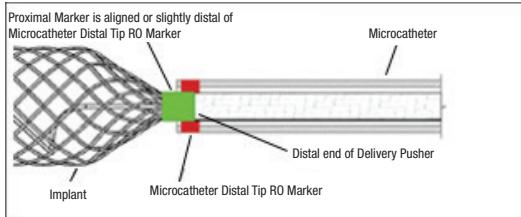

Figure 6 – Position of Marker Bands for Detachment
- Under fluoroscopic guidance, slowly advance the implant out the tip of the catheter. Continue to advance the implant into the desired site until the proximal radiopaque marker on the implant is aligned or slightly distal of catheter distal tip RO marker, positioning the detachment zone just outside the catheter tip. See Figure 6. Reposition if necessary. If the implant size is not suitable, remove and replace with another device. If undesirable movement of the implant is observed under fluoroscopy following placement and prior to detachment, remove the implant and replace with another more appropriately sized implant. Movement of the implant may indicate that the implant could migrate once it is detached. **DO NOT rotate the delivery pusher during or after delivery of the implant into the vasculature. Rotating the delivery pusher may result in damage to the implant or premature detachment of the implant from the delivery pusher, which could result in implant migration. Angiographic assessment should also be performed prior to detachment to ensure that the implant is not extending into undesired vasculature.**